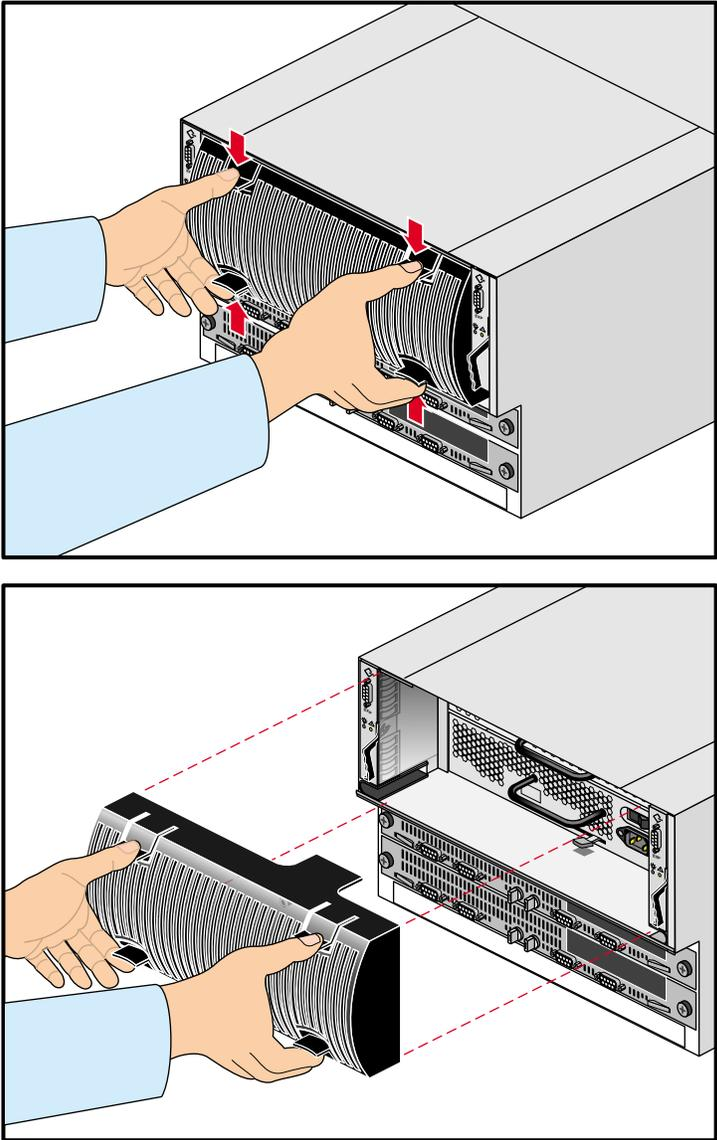

Figure 3-17 Removing an Enclosure Disk Fan Module Example
2. Pull the disk fan module out of the back of the enclosure (see Figure 3-17).